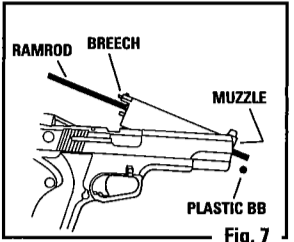

Fig. 7
- Check to make sure the barrel is completely unloaded by pointing the muzzle toward an object with a light background and looking through the breech. If there is a plastic BB in the barrel, push the plastic BB out of the muzzle end of the barrel using a ramrod of the proper size (Fig. 7).